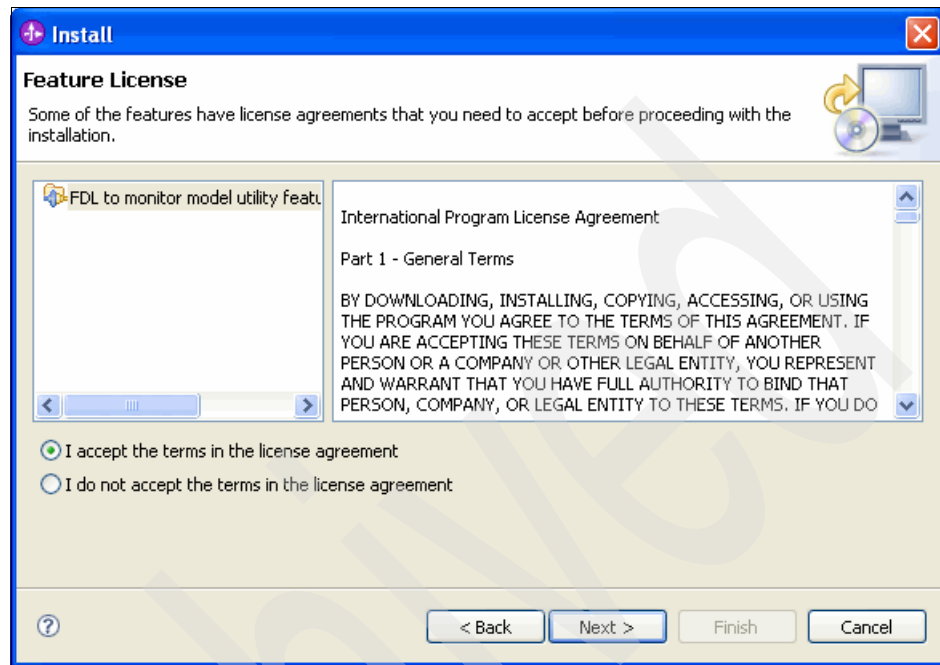

Figure 8-40 Accepting the license agreement
9. In the Install – Feature License window (Figure 8-40), accept the license and click **Next**.